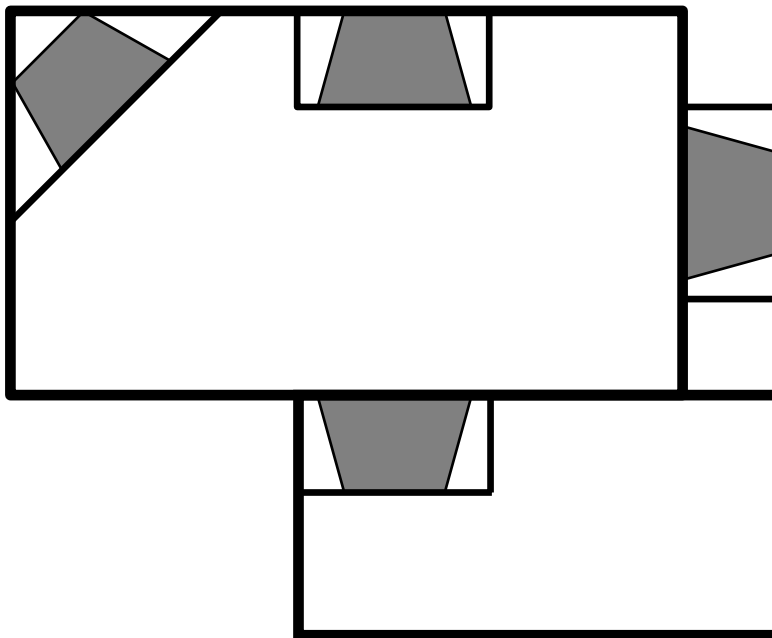

Figure 18 - Suggested Locations
- Minimize modifications to existing construction. *Refer to Figure 18* below for location suggestions.